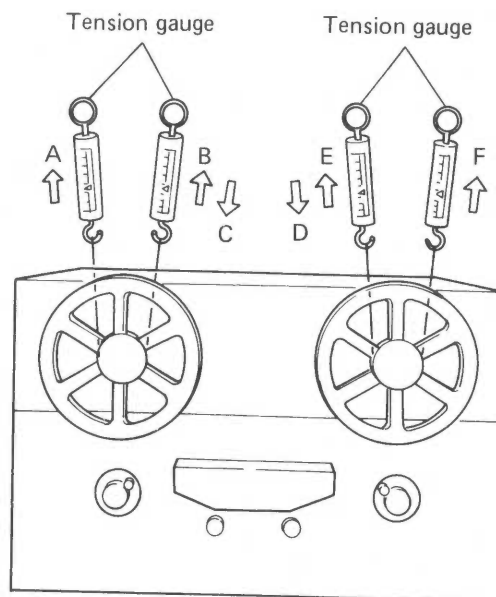
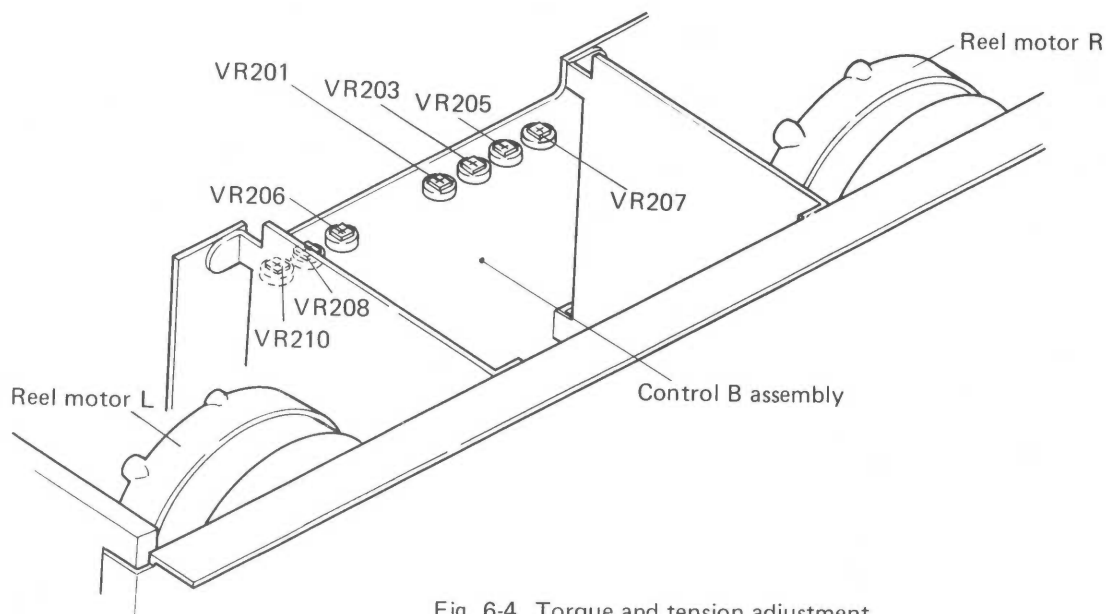

Fig. 6-3 Torque and tension adjustment
Fig. 6-4 Torque and tension adjustment
2. Wind a piece of thread onto an empty No.7 reel (hub diameter of 60mm), and tie the other end of the thread to a tension gauge as shown in Fig. 6-3.
2. Start the unit in PLAY mode, and "take-up" the tension gauge in the D direction (tension gauge "fed in") as shown in Fig. 6-3. Adjust VR203 in the Control B Assembly shown in Fig. 6-4 so that the tension gauge reads 240 – 260g. Take-up torque is increased by turning these VRs clockwise, and decreased by turning counter clockwise.
2. Put the unit into PLAY mode. Pull the tension gauge in the B direction as shown in Fig. 6-3, and read off the gauge value. Adjust the gauge reading to 95 – 105g by means of VR210.
2. Put the unit into FF mode, and have the tension gauge "taken up" (i.e. "fed in") in the D (C) direction as shown in Fig. 6-3. Adjust the tension gauge reading to 440 – 460g by VR205 (VR206). When switching the unit over to stop mode after completing the adjustment, set the shut-off switch to the OFF position (by removing the rubber bands). The motor will rotate in the reverse direction if the STOP button is pressed under these conditions.
2. Put the unit into FF (REW) mode, and pull the tension gauge out in the B (E) direction as shown in Fig. 6-3. Adjust the gauge readings to 55 – 60g by VR208 (VR207). Again, when stopping the unit after completion of the adjustment, always turn the shut-off switch OFF (by removing the rubber bands).